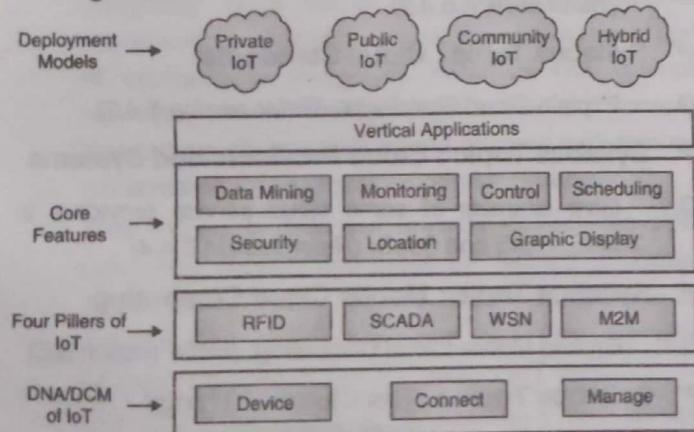

Fig. 5.6.1 : Cloud of Things Architecture
- The Cloud of Things architecture is shown in the Fig. 5.6.1.